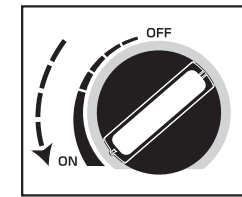

Fig. 7
- Turn the ignition knob to IGNITE position (Fig. 7) until you hear a “click”, flame will ignite automatically.